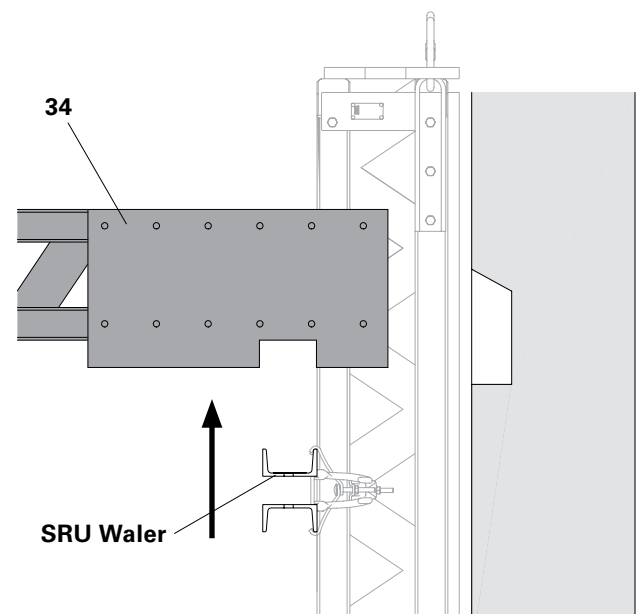

Fig. C1.08
1. Lift the Distance Device (34) out of the SRU Waler and remove.
- (Fig. C1.08)